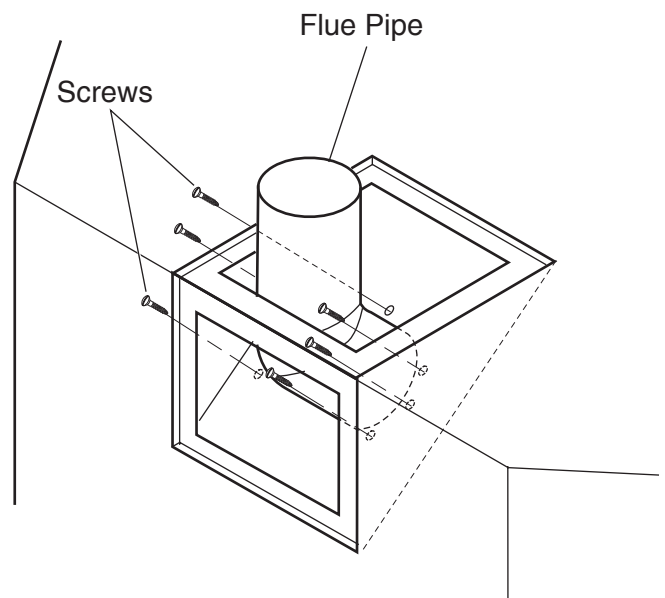

Figure 11 - Attaching Flue Pipe to Top Vent Configurations
5. Replace flue pipe to top of firebox. Ensure the gasket is in place and undamaged. Secure with six (6) screws. *See Figure 11.*
7. Refit the flue pipe adapter and gasket to the top of fireplace. Secure the adapter with six (6) screws removed in step 1.